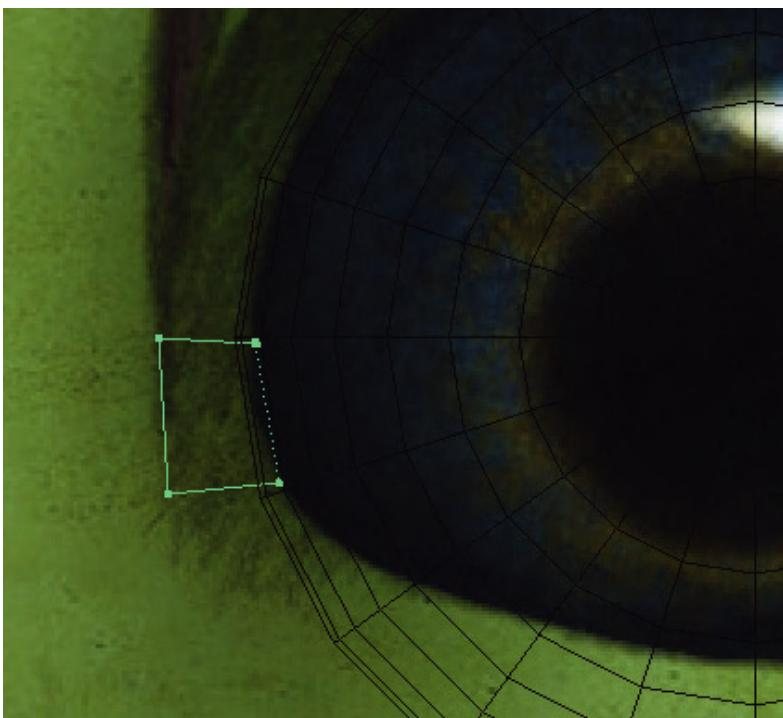

FIG 4.6 Using the Create Polygon Tool to create the first polygon of what will become this game character.
Step 15: Create the first polygon via the Create Polygon Tool. Activate Polygons|Mesh > Create Polygon Tool. Then, in the front View Panel, click four times (Fig. 4.6) once for where each of four vertices should be. Hit Enter when through to exit the tool.